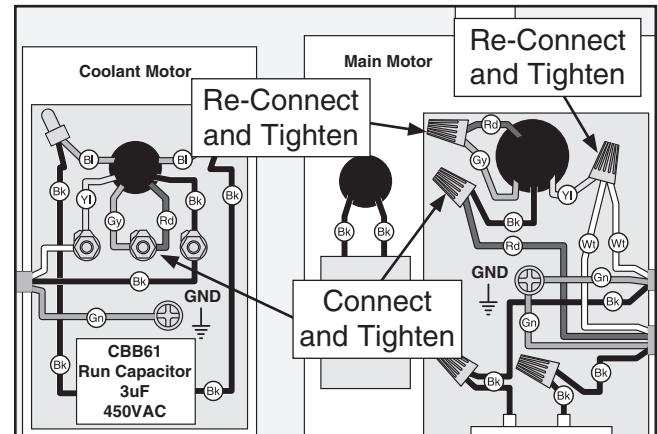

Figure 9. Motor wires repositioned for 230V.
4. Connect the main motor wires with wire nuts (see **Figure 9**). Once snug, wrap electrical tape around each wire nut and the connected wires, to reduce the likelihood of the wire nut vibrating loose during motor operation.
5. Connect the wires on the coolant motor, as shown in **Figure 9**, with an 8-36 hex nut on the center terminal.